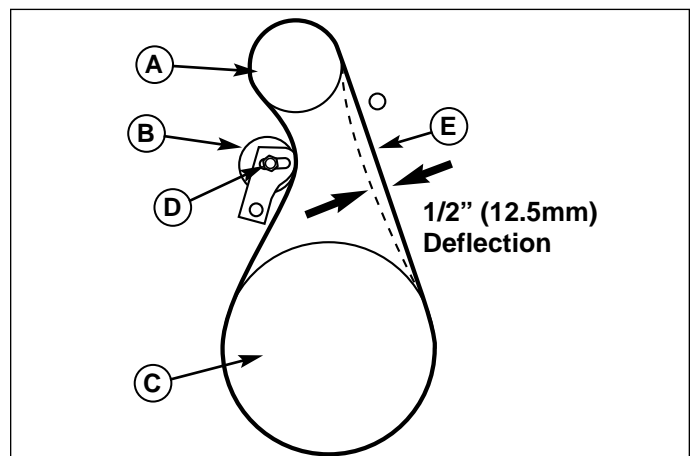

Figure 12. Auger Belt Deflection
3. Loosen nut (D, Figure 12) on auger idler pulley (B) and move auger idler pulley towards belt about 1/8 inch (3mm).
4. Tighten nut (D).
5. Engage auger drive clutch. Check tension on belt (opposite idler pulley). Belt should deflect about 1/2 inch (12.5 mm) with moderate pressure see Figure 12). You may have to move the idler pulley more than once to obtain the correct tension.